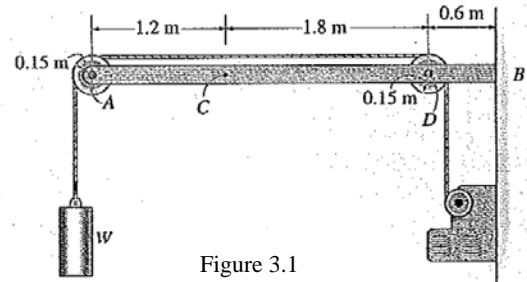

Figure 3.1
**Ví dụ 03:** The hoist in Fig. 3.1 consists of the beam  $AB$  and attached pulleys, the cable, and the motor. Determine the resultant internal loadings acting on the cross section at  $C$  if the motor is lifting the 500-N ( $\approx 50$ -kg) load  $W$  with constant velocity. Neglect the weight of the pulleys and beam.